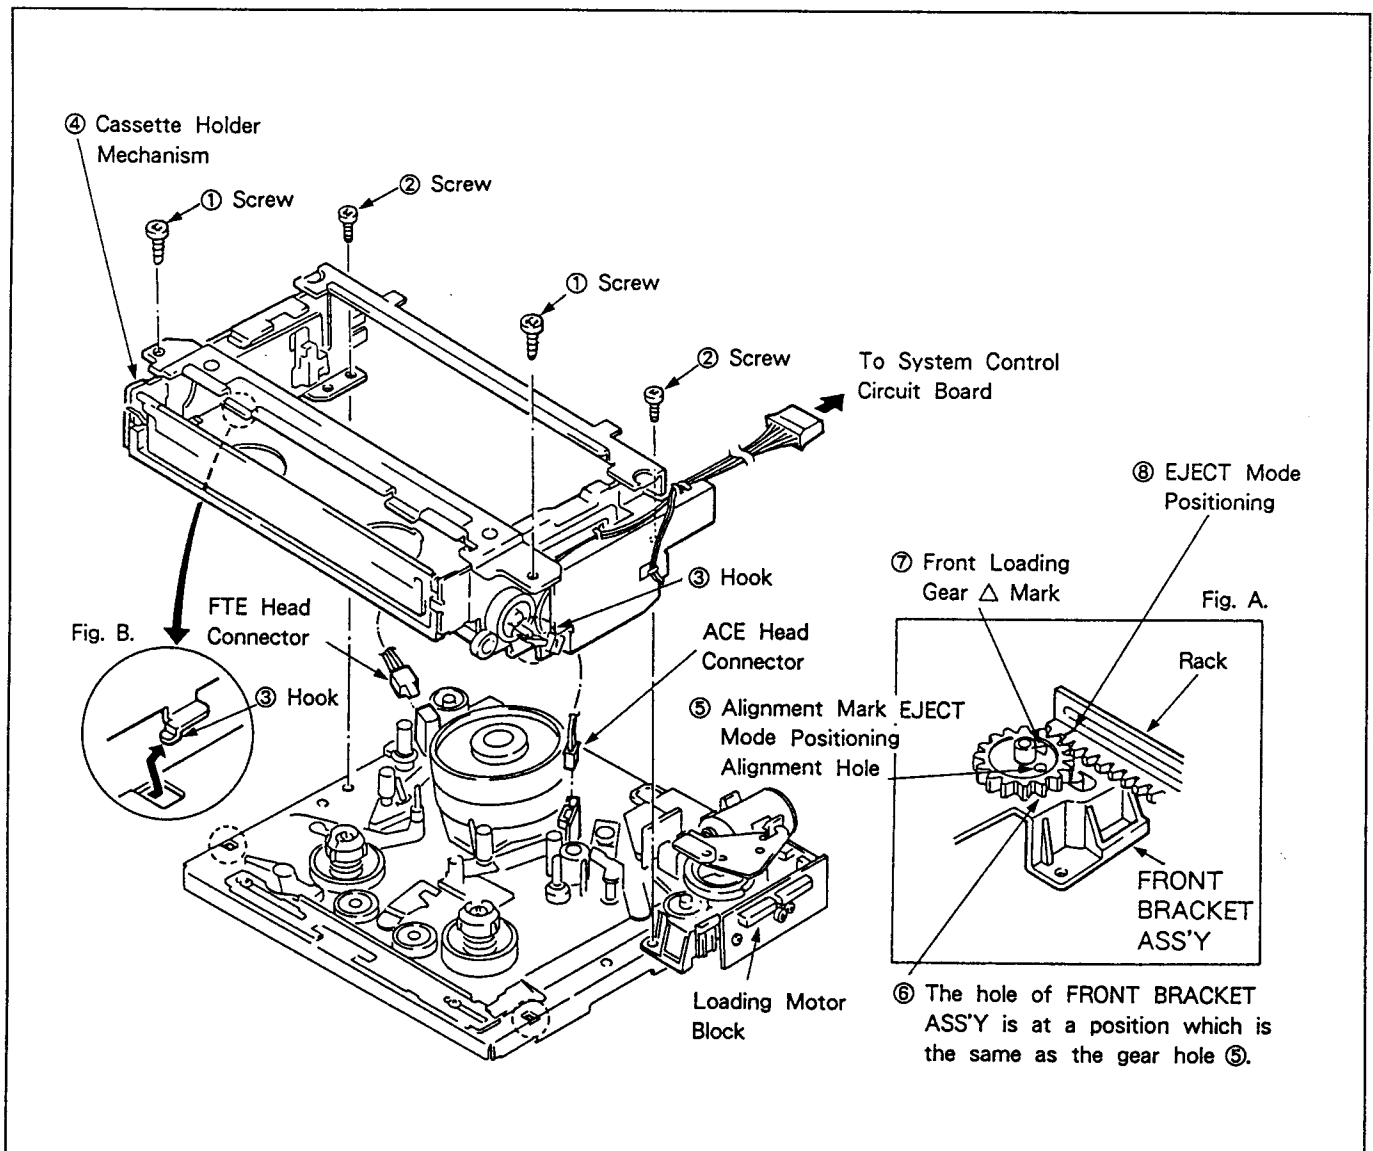

Fig. 2-2-1. Compl Cassette Mechanism
(See Fig. 2-2-1.)
- 4) Line up LOADING MOTOR bracket ② with PROTUBERANCE ⑪ and POSITIONING HOLE ⑫, and attach with two screws ① and one screw ⑩. (Refer to Fig. 2-2-1.)